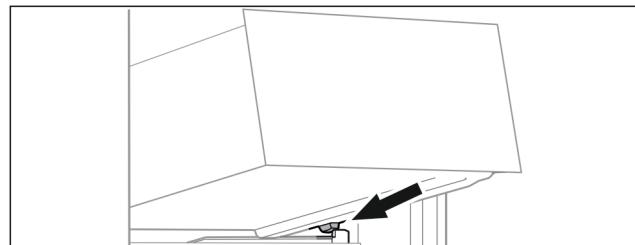

Fig. 94
- Place drawer at an angle behind the stoppers on the molded rib. (see Fig. 94)